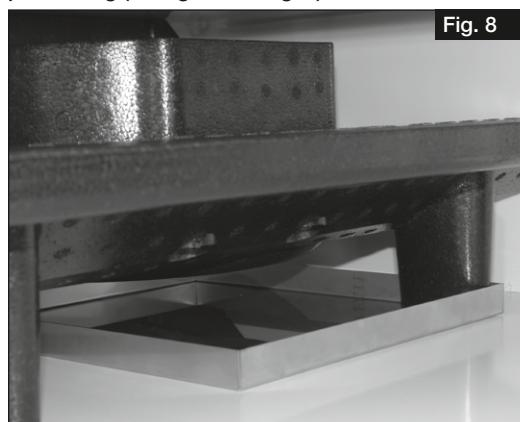
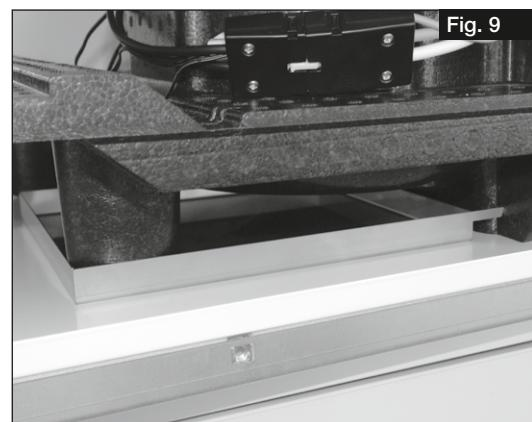

Fig. 8
Fig. 9
**The metal trays prevent the accumulation of condensate in this area and they must be checked for correct positioning (cf. Fig. 8 and Fig. 9).**